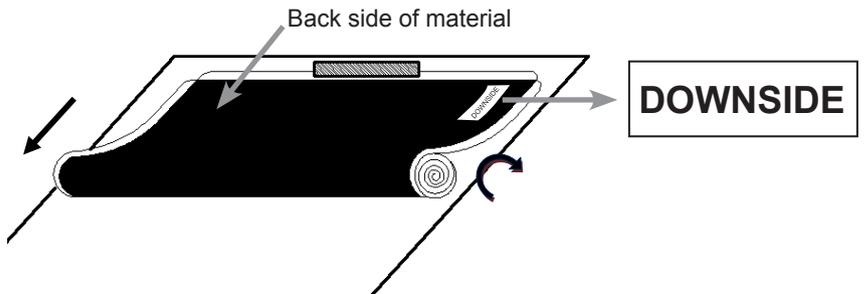

Figure 2
2. It is strongly recommended for two people to unroll the material to prevent the screen from bending or rolling unevenly. Each person should hold one end of the roll and slowly unroll the screen in a clockwise direction (Figure 2). Tip: Check the **DOWNSIDE** label on the material.